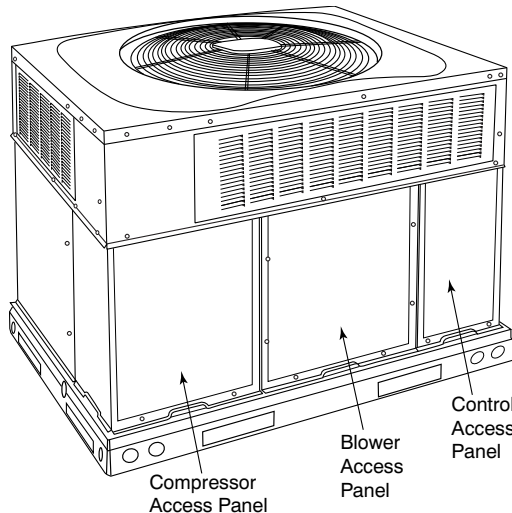

Fig. 24 – Unit Access Panels
- a. Remove blower access panel (see Fig. 24).
- g. Reinstall blower access panel (see Fig. 24).
1. Remove control access panel (See Fig. 24).
Remove blower access panel (see Fig. 24). Limit switch is located on the fan partition.
3. Remove control access panel (See Fig. 24).
Remove access panels (see Fig. 24) to locate all the electrical controls and wiring.
After inspecting the electrical controls and wiring, replace the access panels (see Fig. 24). Start the unit, and observe at least one complete heating cycle and one complete cooling cycle to ensure proper operation. If discrepancies are observed in any operating cycle, or if a suspected malfunction has occurred, check each electrical component with the proper electrical instrumentation. Refer to the unit wiring label when making these checkouts.